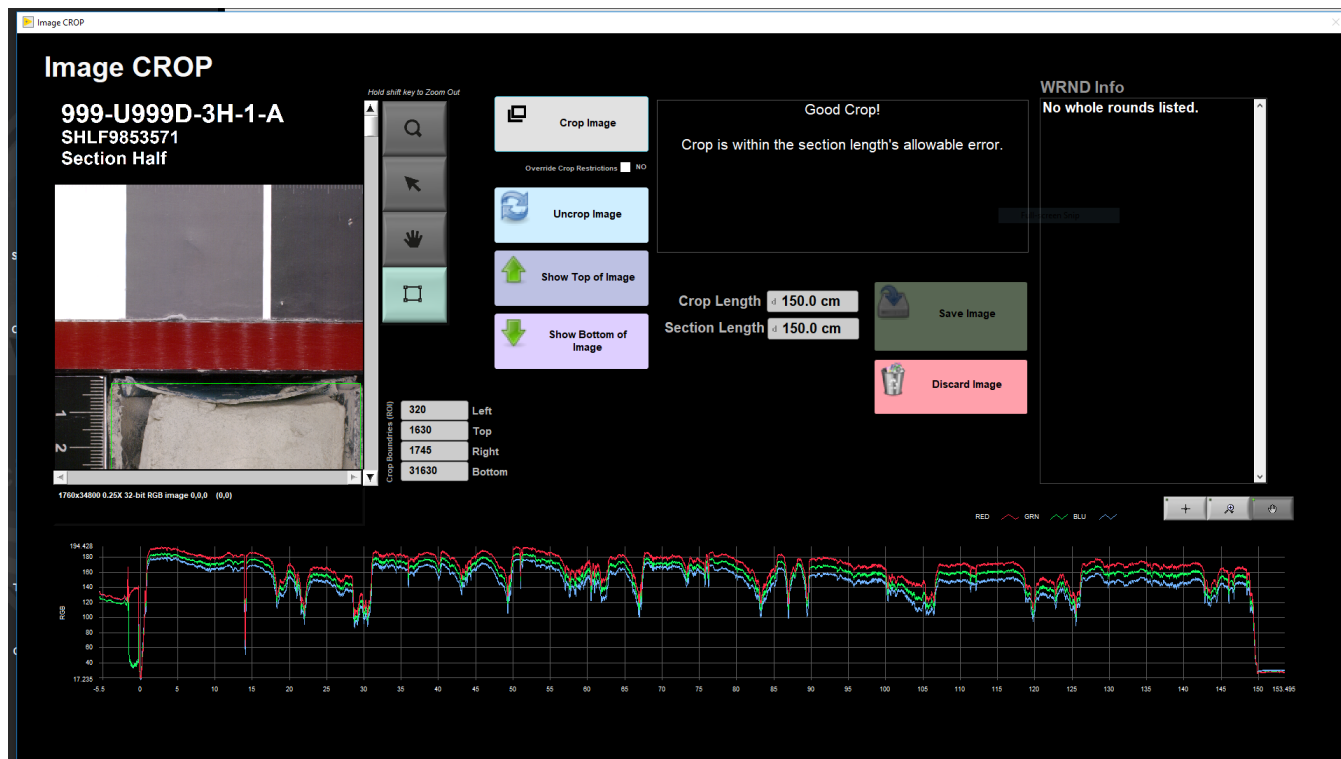

Figure 11. Image CROP window
7. The **Image Crop** window (Figure 11) pops up. An image should be cropped to include all material and the inner edge of the end-cap. RGB data will exclude data outside of the Crop area. The green box is the IMS estimation of the crop area. Click and drag the green lines to adjust the cropped area at the top, bottom, and sides of the image. Tools in this window include: